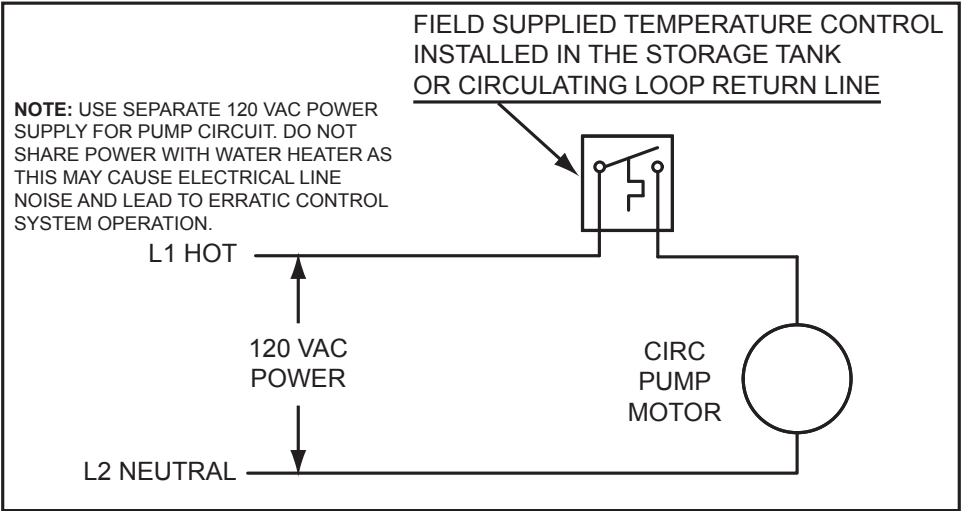

Figure 68. Circulating Pump Wiring Diagram - Storage Tank or Building Recirculation
6. If a pump is being installed between a water heater and storage tank or on a building recirculation loop wire according to *Figure 68* (page 71).
- 6. If a pump is being installed between a water heater and storage tank or on a building recirculation loop wire according to *Figure 68* (page 71).